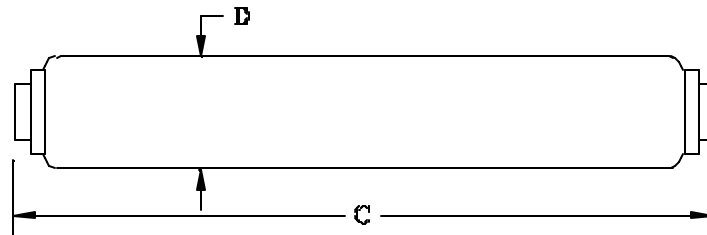

Figure 2 - Lamps with R17d recessed double-contact base
- b) R17d recessed double contact base, see Figure 2